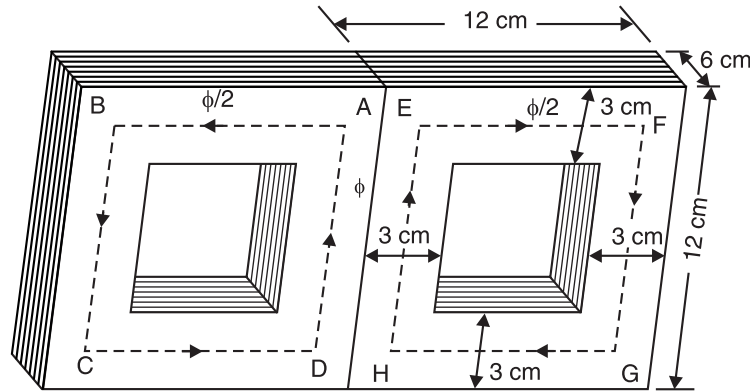

Fig. 8.32
**Example 8.25.** A transformer core made of annealed steel sheet has the form and dimensions shown in Fig. 8.32. A coil of  $N$  turns is wound on the central limb. The average length of magnetic circuit (i.e. path ABCDA or path EFGHE) is 30 cm. Determine the ampere-turns of the coil required to produce a flux density of 1 Wb/m2 in the central leg. What will be the total amount of flux in the central leg and in each outside leg? Given that for annealed sheet steel (from  $B-H$  curve),  $H = 200 \text{ AT/m}$  at 1 Wb/m2.
**Solution.** It is a case of parallel magnetic circuit. It is clear from Fig. 8.32 that central leg has twice the area of an outside leg. The flux  $\phi$  set up in the central limb divides equally into two parallel identical paths viz. path  $ABCD$  and path  $EFGH$ . It may be noted very carefully that flux density is the \*same in the central leg, each outside leg and other parts.